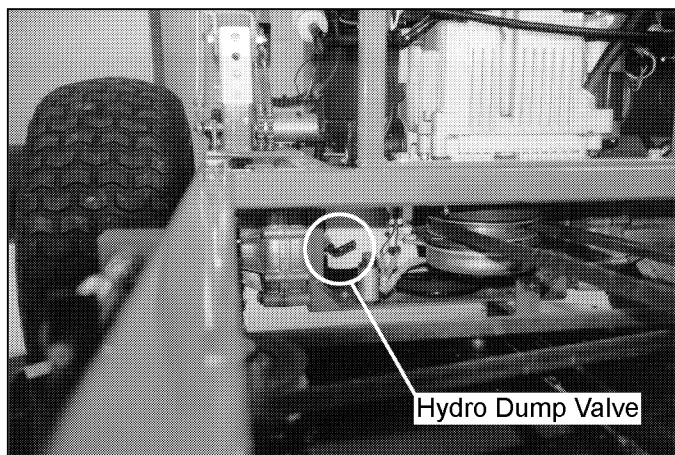

Figure 15
3. Engage the hydro dump valves on the transmissions (*Figure 15*).